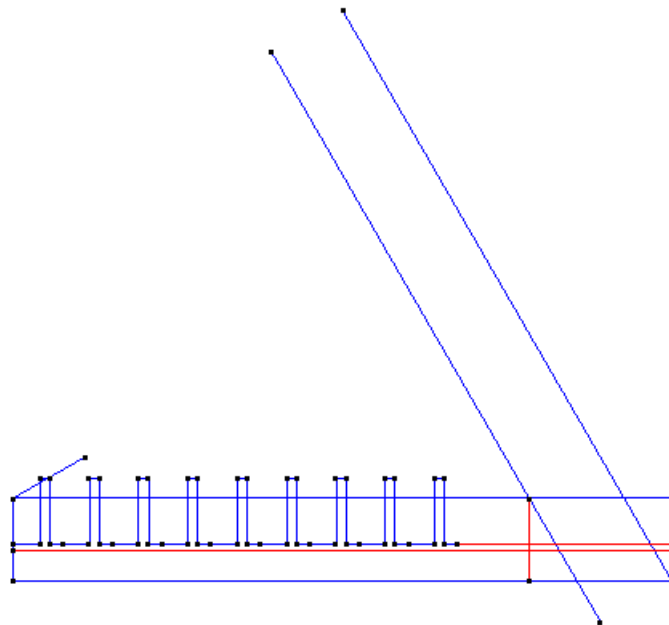

Figure 12. Selecting the lines to intersect
- 9 . Choose **Geometry->Edit->Intersection->Lines**. Select the last two lines created and the vertical line segment coming down from the tangential center (see Figure 12). Press **ESC**.